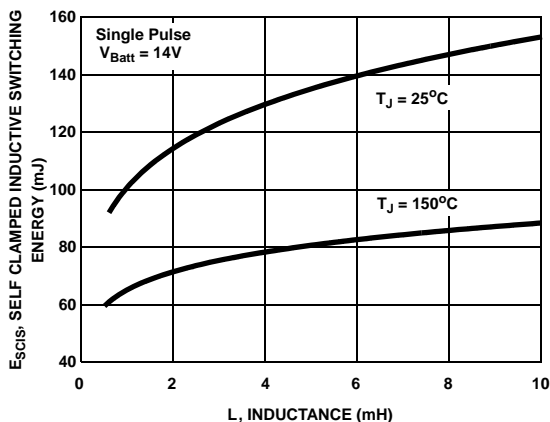

**Figure 5. Intermittent Open Load**
**Open Load Detect** (see figure 5) While INA and INB are high, if the load current fails to rise above the open load current level,  $I_{OUT(ol)}$ , before INB transitions low an open load diagnostic fault will be issued. The diagnostic pin will be driven low on the falling edge of the INB signal and remain low until INA is returned to a logic 0 condition. The open load detect mechanism senses current flowing through the NDMOS at the falling edge of the INB signal. If an open load condition exists during the Excitation phase but is corrected before the INB falling edge the open load condition would not be detected and the open load diagnostic fault would not be generated.